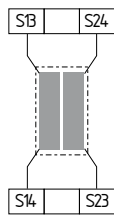

Fig. 8
**Safety mat to ISO 13856-1 (see Fig. 8)**